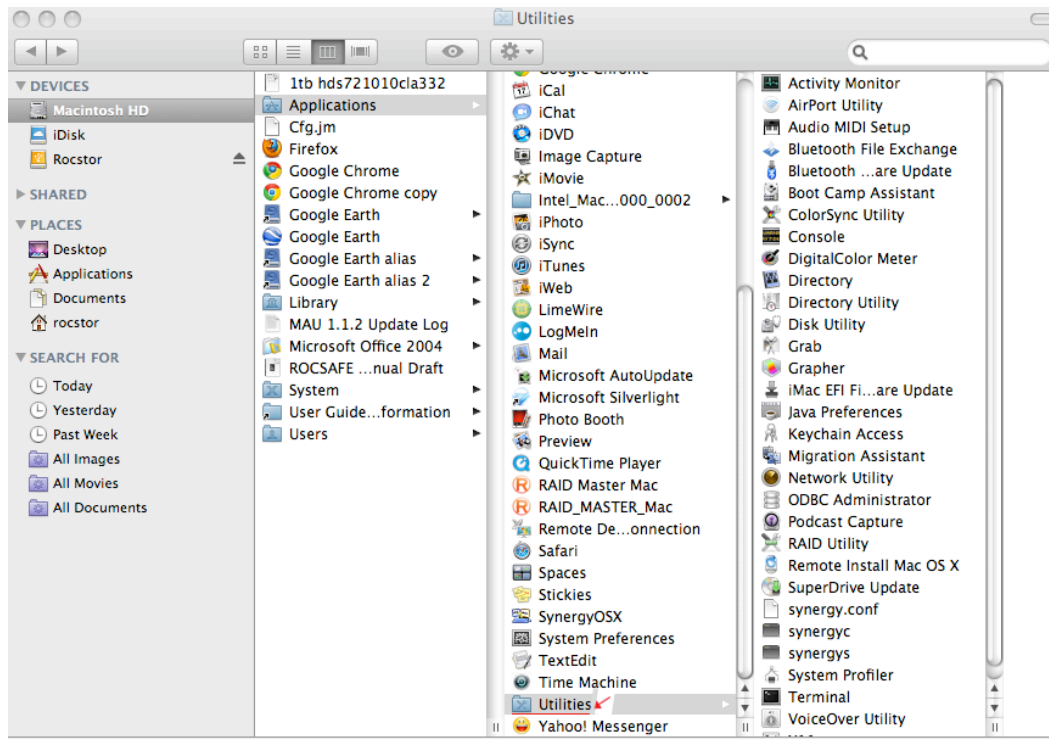

Figure 3.0
5. In the “**Applications**” menu, click on the “**Utilities**” icon (figure 3.0.)